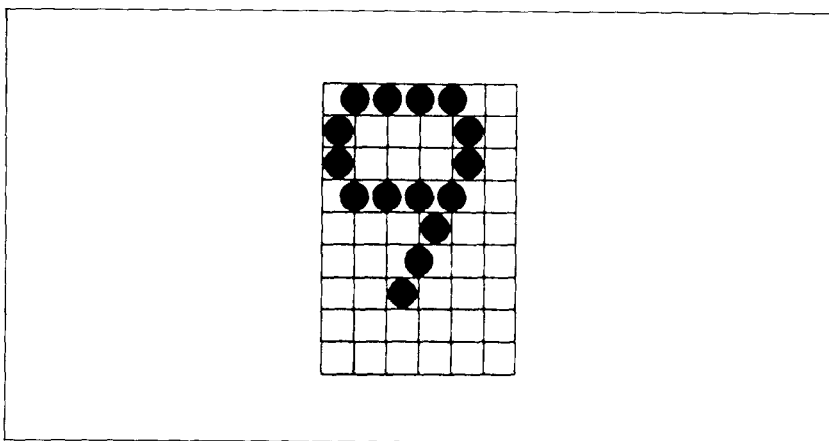

Figure 6-2. Dots can be inside boxes or straddle the vertical lines of the grid.
- Horizontally, dots may be centered in a box, or may straddle a line, making the actual character grid 11 dots wide by 9 dots high. Vertically, dots can only be centered in a box. See Figure 6-2.